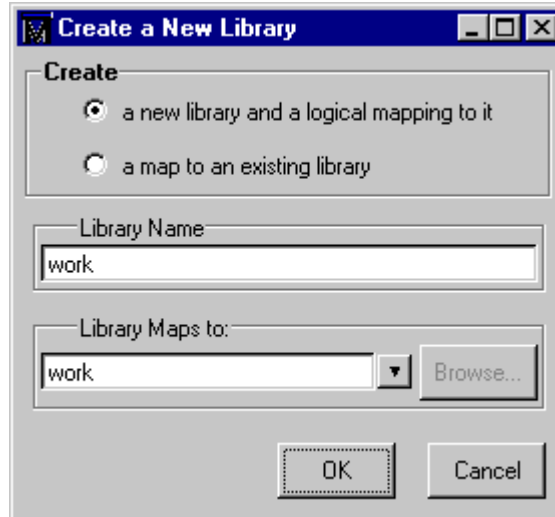

Figure 06. New Library
2. Go to the **Design** menu and choose **Create a New Library**, a dialog box appears, see **Figure 06**.